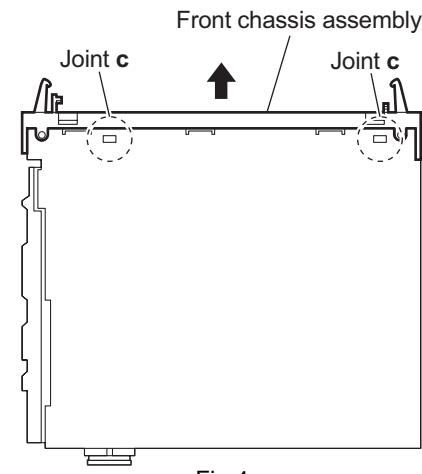

Fig.4
- (4) Release the two joints **c** on the bottom side of the main body and remove the front chassis assembly in the direction of the arrow. (See Fig.4.)